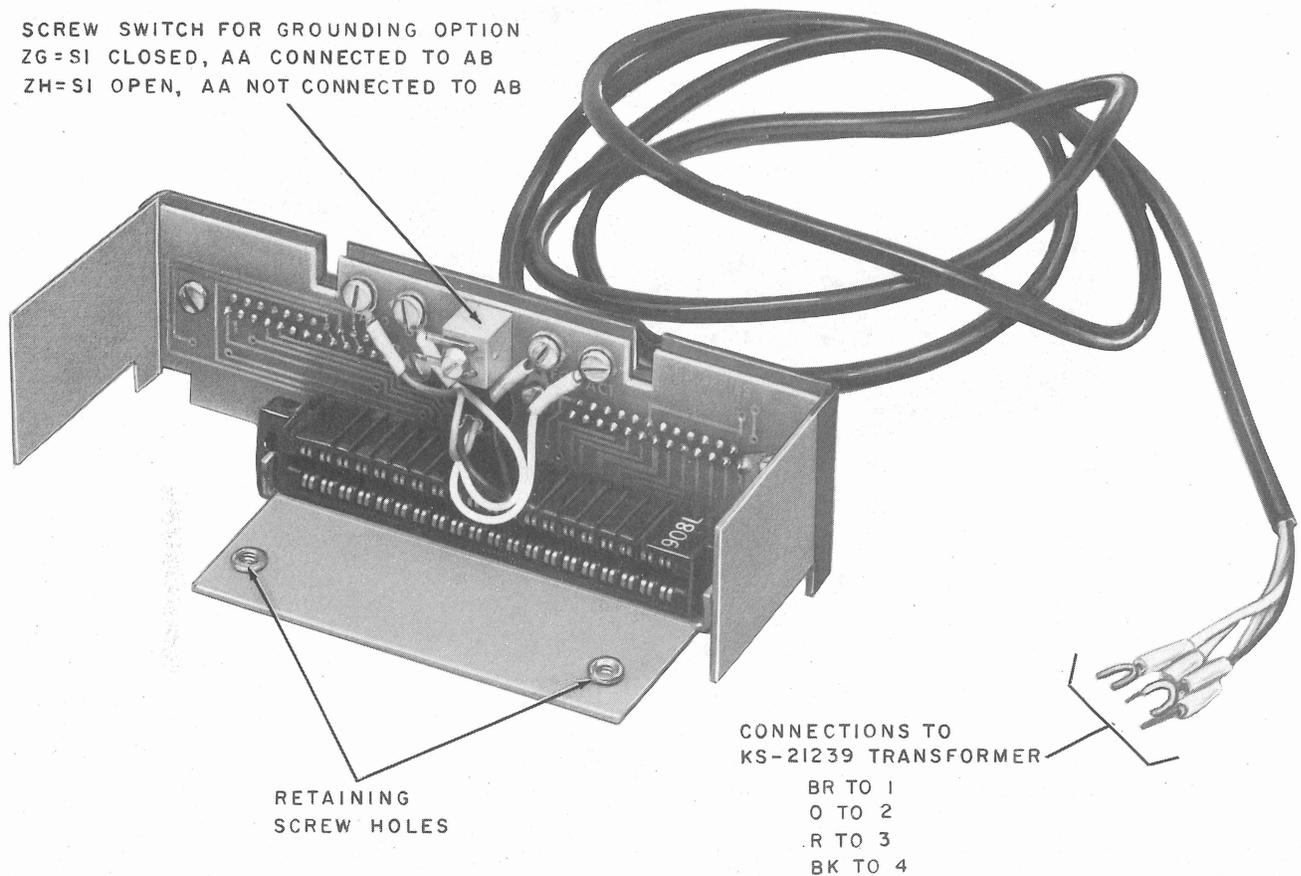

Fig. 3—Interface Assembly of 47A1 Data Mounting
**DS 202S-L1A/2:** The data set CP in an extruded aluminum housing with front and rear covers, interface assembly (Fig. 3),
**3.05** The mounting consists of an aluminum extruded shell with card guides for the data set assembly, an interface assembly with connectors and power cord (Fig. 3), a KS-21239-L4 transformer (-L1 is MD) and M13F line cord. The top surface of the aluminum housing is depressed to allow for nesting of several housings, or for nesting of the associated telephone as shown in Fig. 1. Front and rear covers are of molded plastic with reverse sides painted black. They are retained in the housing by integral molded hooks. Covers are removed by depressing the top to disengage the top hooks and rotating the cover downward. A tab is provided at the bottom to prevent lateral movement of the cover relative to the extruded housing. The covers are installed by engaging the bottom hooks in their dents, taking care to ensure that the lateral alignment tab is engaged in its slot, and rotating the cover closed. The front cover displays the appearance of the 2-letter abbreviation when one or more of the seven status indicators are *on*, and a continuous black opaque surface when the indicators are *off*.